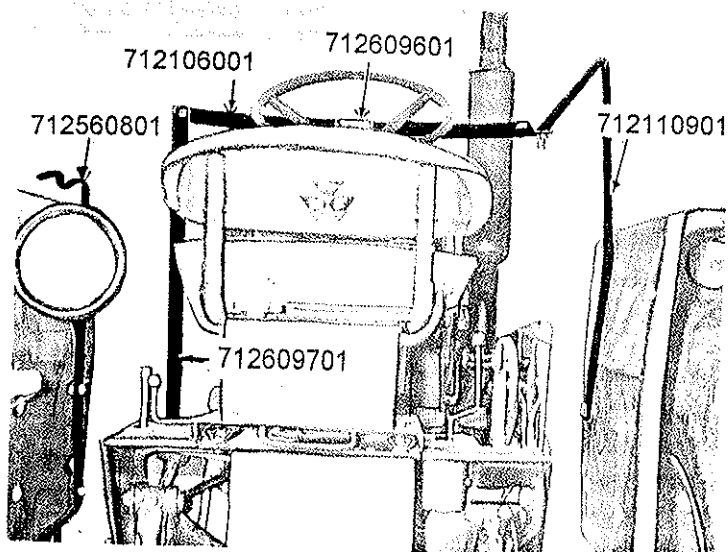

Figure 3
8. Bolt #712560801 door latch to left fender using 1/2" x 1 1/4" bolts and nuts. Use top and second from bottom holes in latch. See Figure 3.